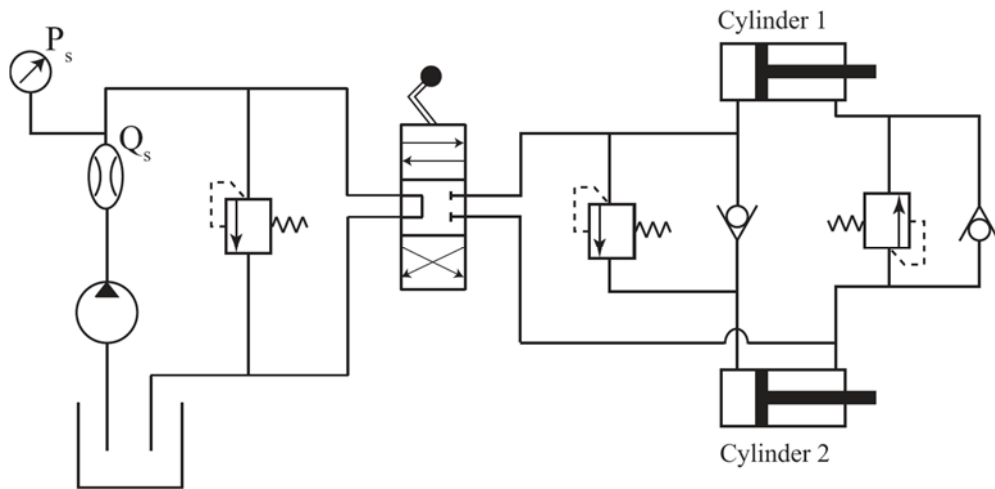

Fig. 2: 1212 - Bidirectional Sequence Circuit
- Predict the operation of the circuit in Fig. 2.
- Modify the circuit in Fig. 2 such that the cylinders extend and retract in the sequence i.e., design and verify a circuit whose sequencing can be described as “1212”